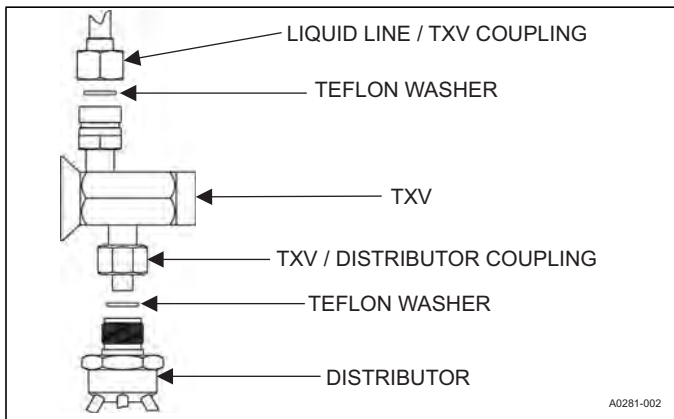

FIGURE 5: TXV Installation
4. Install the thermal expansion valve on the distributor assembly with supplied fittings. Ensure Teflon washer is seated in distributor. Hand tighten and turn an additional 1/4 turn to seal. Do not over-tighten fittings. See Figure 5.